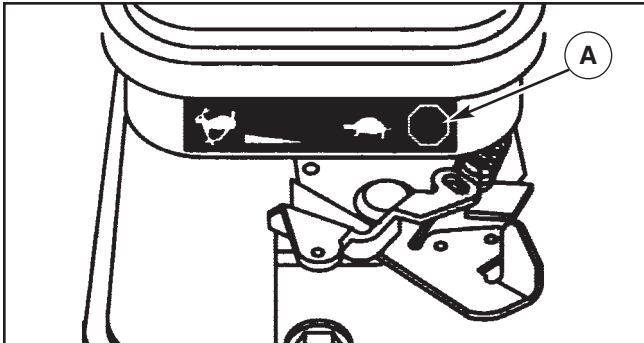

Figure 12: Move throttle
2. Move throttle to SLOW position, then STOP position (A) (Figure 12).